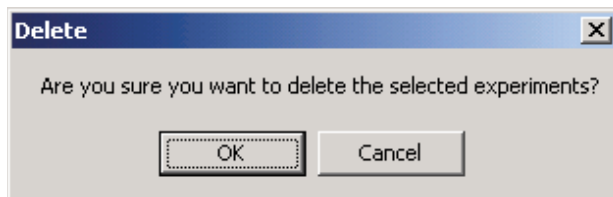

Figure 5-12: The Delete alert.
3. An alert will appear, requesting you to confirm that you wish to delete the selected experiments (Figure 5-12). Click the **Cancel** button to be returned to the **Delete Experiment** dialog, or click **OK** to continue deleting the file(s).